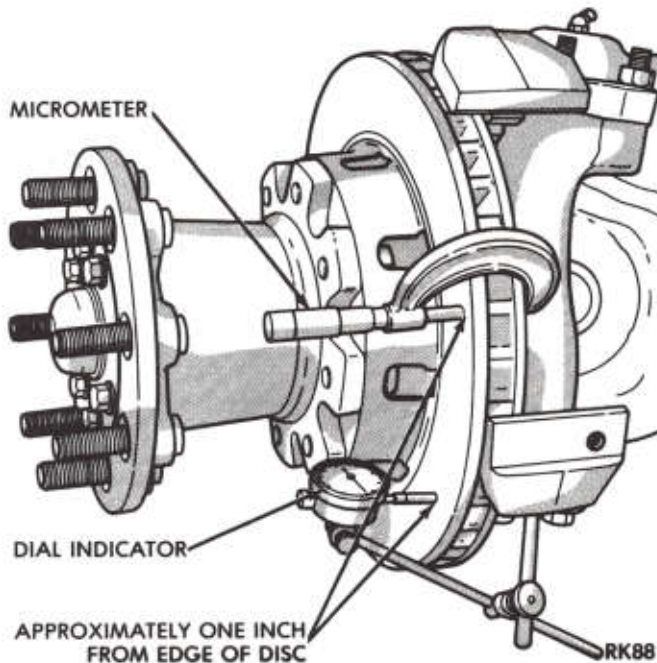

Fig. 1—Checking Braking Disc for Runout and Thickness
(1) Mount dial indicator C-3339 on steering arm with plunger contacting disc approximately one (1) inch from edge of disc (Fig. 1).
(2) With wheel bearings adjusted to zero end play, check lateral runout. (Both sides of disc). Runout should not exceed .005 inch (.127mm). If runout is in excess of specification, install a new disc and hub assembly or reface disc, being careful to remove as little as possible from each side of disc. Remove equal amounts from each side of disc. Do not reduce thick-
(3) Thickness variation measurements of disc should be made in conjunction with runout. Measure thickness of disc at twelve (12) equal points with a micrometer at a radius approximately one (1) inch (25.4mm) from edge of disc. If thickness measurements vary by more than .001 inch (.025mm), disc should be removed and resurfaced or a new disc and hub assembly installed (Fig. 1).
(4) Light scoring and/or wear is acceptable. If heavy scoring or warping is evident, the disc must be